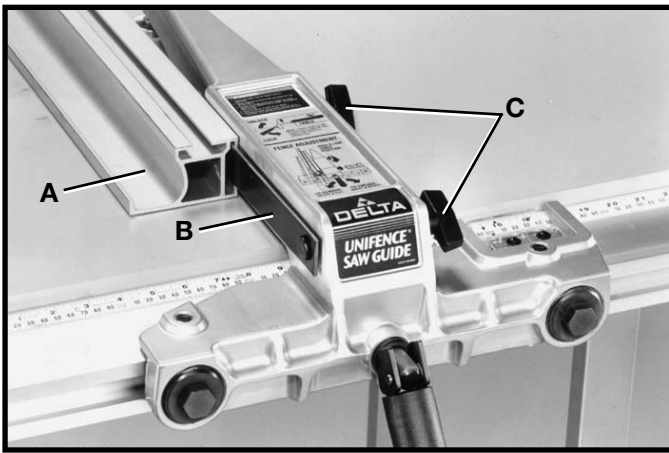
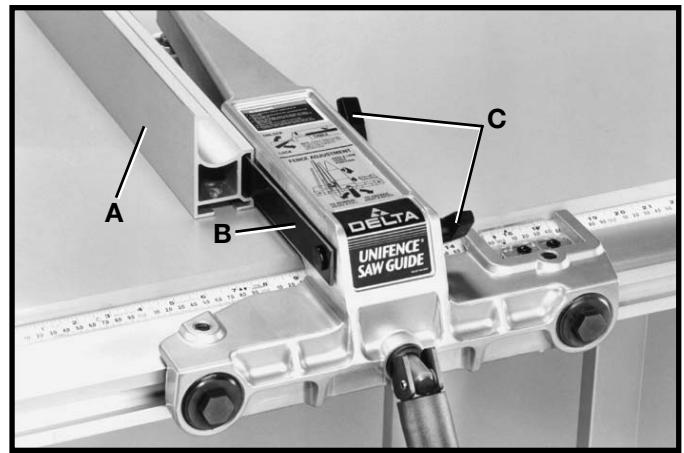

Fig. 74
Fig. 75
1. The fence (A) can be assembled to clamp plate (B) in either the horizontal position as shown in Fig. 74, or the vertical position as shown in Fig. 75. Make certain that the two lock knobs (C) are loose and slide fence (A) onto clamp plate (B) as shown. Then tighten the two lock knobs (C).